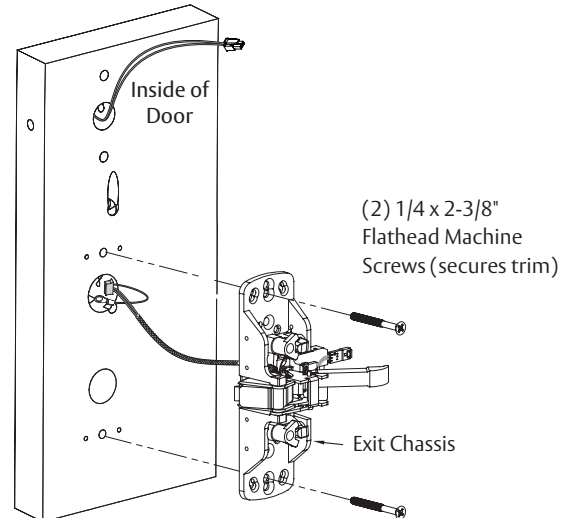

Fig. 5
NOTE: Exit chassis harness consists of a 6-pin female connector and ground wire/terminal. (Figure 5)
- a. Feed 6-pin connector and larger ground lug straight through to outside of door. (Figures 5,6)